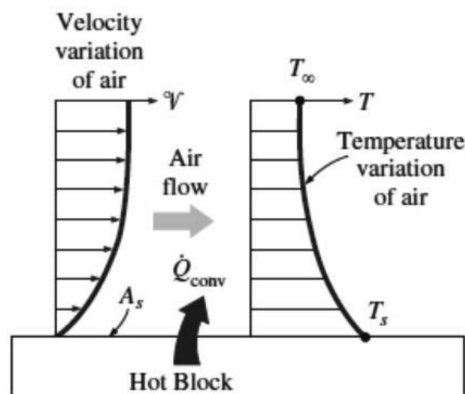

Fig. 1.5 Heat transfer by convection
- Consider the cooling of a hot block by blowing cool air over its top surface (Figure 1.5).
- For example, in the absence of a fan, heat transfer from the surface of the hot block in figure 1.5 will be by natural convection since any motion in the air in this case will be due to the rise of the warmer (and thus lighter) air near the surface and the fall of the cooler (and thus heavier) air to fill its place.